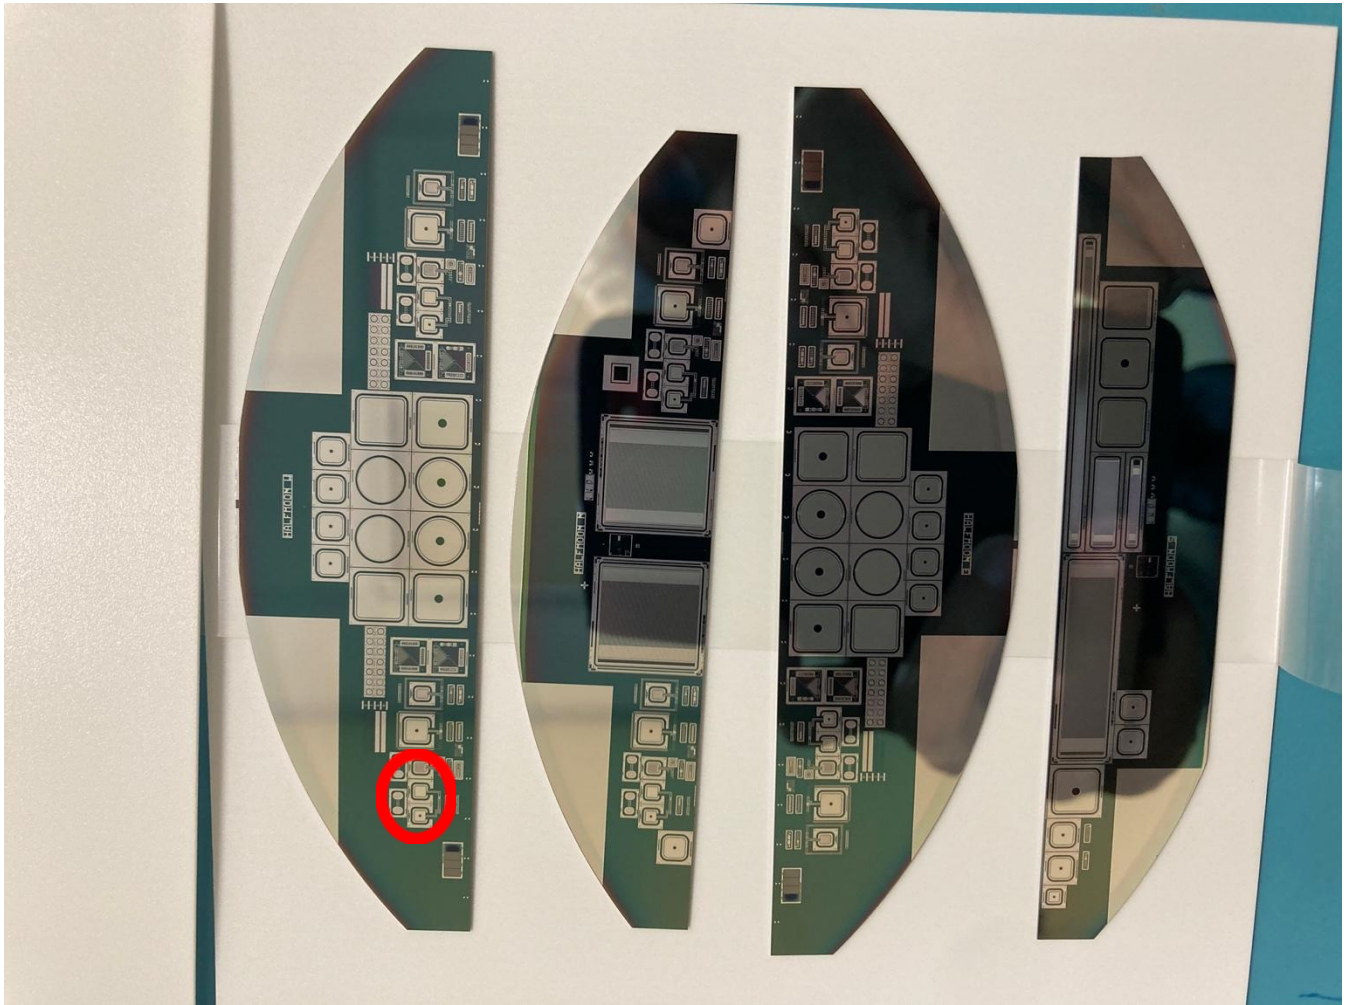

Figure 5 HL-LHC CMS Outer Tracker 2S sensor wafer halfmoons
- 1) **Dicing the test structures:** the test structures we will be using come from the CMS HL-LHC Outer Tracker upgrade and they come embedded in so-called halfmoons (Figure 5) that have been cut from the periphery of the 2S sensor wafers. The halfmoons contain an assortment of test structures, including baby strip sensors and
various diodes and capacitors. The halfmoons are obviously too large to mount on the test card, so we need to dice them. For this and the next two steps you need to go into the cleanroom of LabD after gowning up. The lab in the cleanroom is operated by highly skilled technicians that work with us on the CMS upgrades. You will work with Bert on cutting the halfmoons until you have a small enough piece containing a diode and a capacitor (circled in red in Figure 5).
Connect the LCR meter, bias supply, probe, and chuck as shown in Fig. 5, with an external bias adapter. The LCR is connected through a bias box to protect the LCR from high voltage.